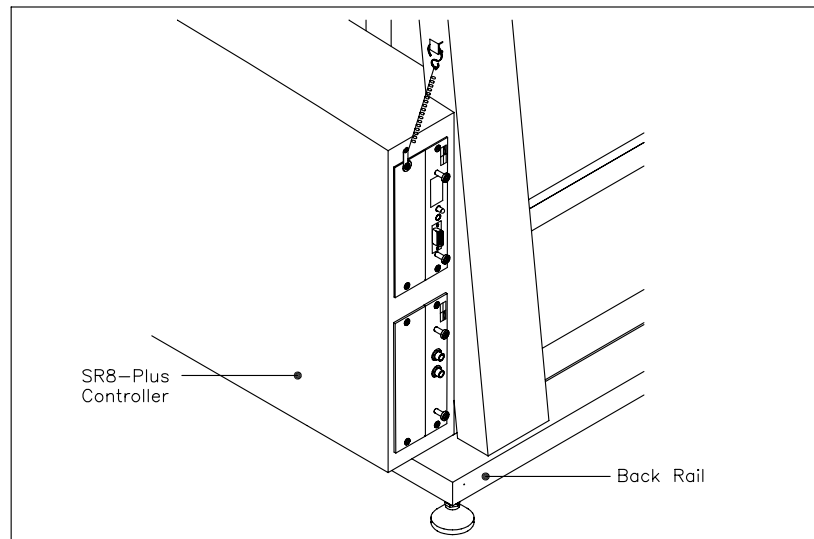

Figure 4-7: Securing the SR8-Plus Controller
5. Secure the SR8-Plus Controller to the Easi-Lift Frame by pulling the “S-Hook” and inserting it into the metal loop in the frame. (see Figure 4-7)